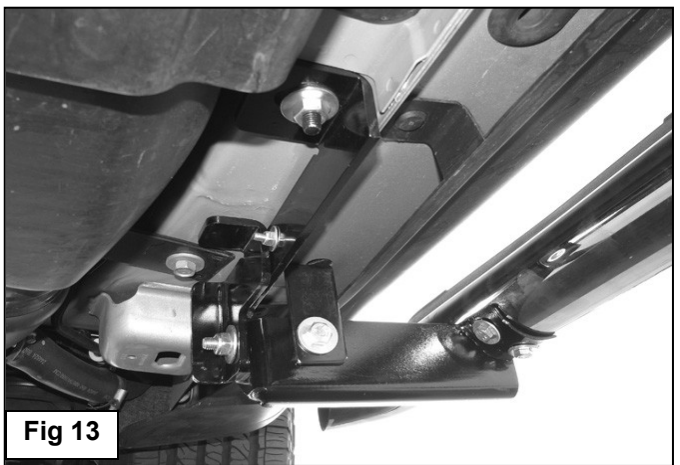

Fig 13
8. Select the left Sidebar and carefully place it in position on the (2) Mounting Brackets. Line up the threaded holes in the Sidebar with the slots in the Brackets and bolt it in place with the included (4) M8 x 25mm Hex Bolts, (4) M8 Lock Washers and (4) M8 Flat Washers, **(Figure 13)**. Snug all hardware but do not tighten at this time.